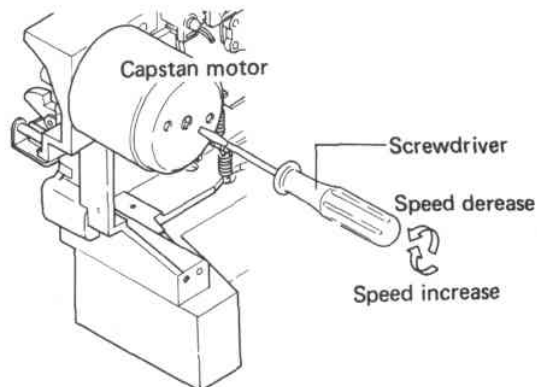

Fig. 8-2 Tape speed adjustment
2. Replay the 3kHz part of the test tape STD-301. Adjust the semi-fixed resistor in the motor until the frequency at the start of the tape falls within the range 2,995Hz to 3,010Hz (Fig. 8-2).